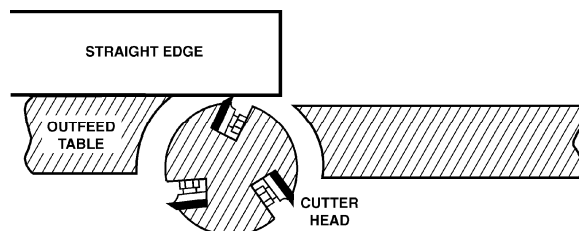

Figure 18
4. Position of the table and straight edge should look like Figure 18. Use care when handling the straight edge near the blades so as not to damage them.